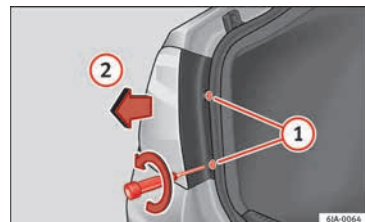

Fig. 98 Remove the rear light unit from side panel.
- Take the screwdriver or a Torx 20 key (T20) from the vehicle tool kit and loosen (turning anti-clockwise) and remove the two retaining screws that secure the front of the light » Fig. 98 ①, taking care not to lose them.
- Pull the rear light unit backward (» **Fig. 98** ②) to remove the light from its housing.